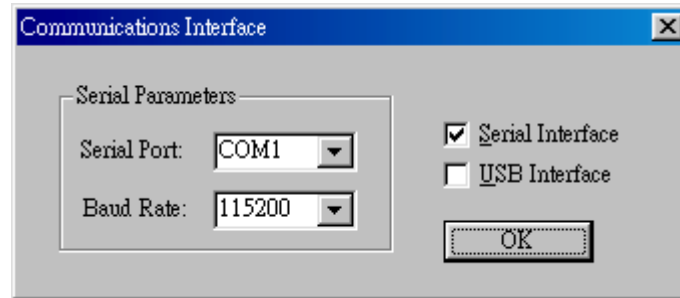

Figure 7: Configure Communications Interface
2. Once the program is launched, a “Communications Interface” window will be displayed, please select the interface options “**Serial Interface**” or “**USB Interface**”, if it is an UART interface device, please select **Serial Interface** and set the “**Serial Port**” and “**Baud Rate**” in the Serial Parameters box, then click **OK**. The configuration of both Master and Slave shall be the same. (as Figure 7)